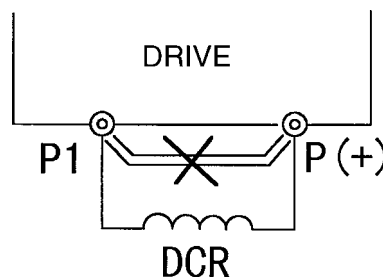
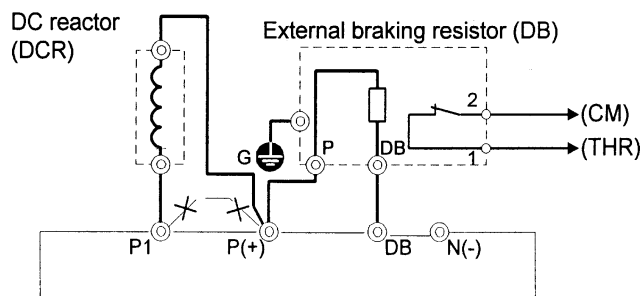

Fig. 2-3-3
Fig. 2-3-4 Connection (15 Hp or less)
2. When you need to connect source type logic, refer to Basic Connection Diagram Fig. 2-3-3 and Fig. 2-3-4 and Technical Information Manual. (Sink Logic is commonly used in the USA and Source Logic is commonly used in Europe.)
(5) Others